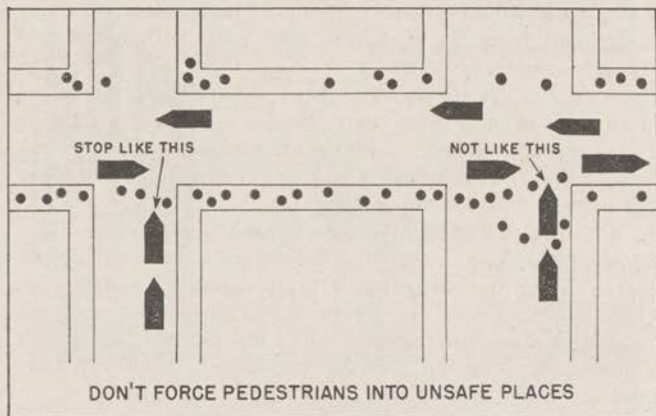

FIGURE 23.—Keep crossings clear.
48. SCHOOL BUSES.—When a school bus stops, you too should always come to a full stop. On a narrow (two-lane) road, stop even though the bus is headed in the opposite direction. Do not move on again until (1) the school bus moves on, or (2) you get a signal to continue from the school bus driver or police. If you pass a standing bus, proceed very slowly until you have cleared it. *Don't kill a child.*
51. CROSSWALKS.—Keep clear of crosswalks when you halt at an intersection, so that you do not obstruct pedestrians' right-of-way. (See fig. 23.) Blocking their way is chiseling—and worse, because they may be injured by vehicles they cannot see if they have to dart around your vehicle.